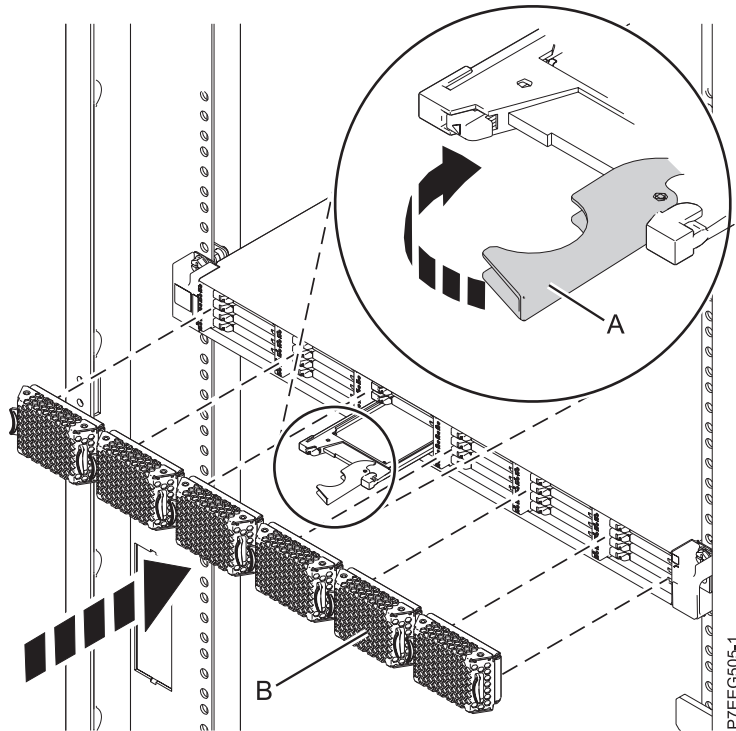

Figure 48. Replacing a solid-state drive in the EDR1 PCIe storage enclosure.
4. When the solid-state drive identify LED flashes, slide the solid-state drive all the way into the EDR1 PCIe storage enclosure until it is fully seated. Then rotate the handle (A) to the locked position. See Figure 48 on page 71.
5. Install the bezel (B).